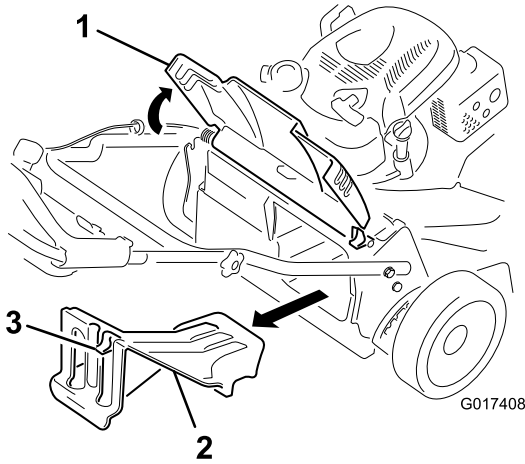

Figure 27
1. Raise and hold up the rear deflector (Figure 27).
2. Remove the rear-discharge plug by pulling down on the latch with your thumb and pulling the plug out from the machine (Figure 27).